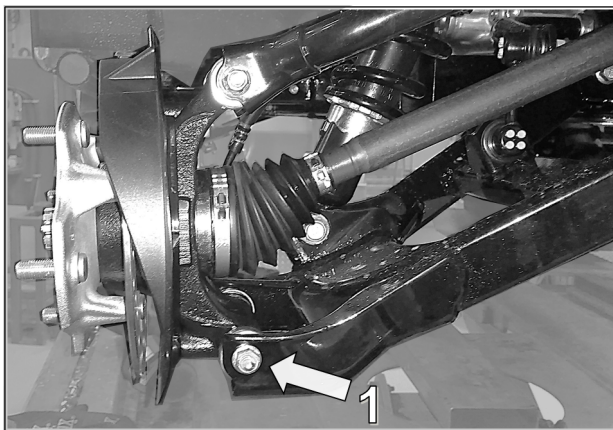

Fig. 6
5. Remove bolt (1) that links lower suspension arm to wheel knuckle. See Fig. 6